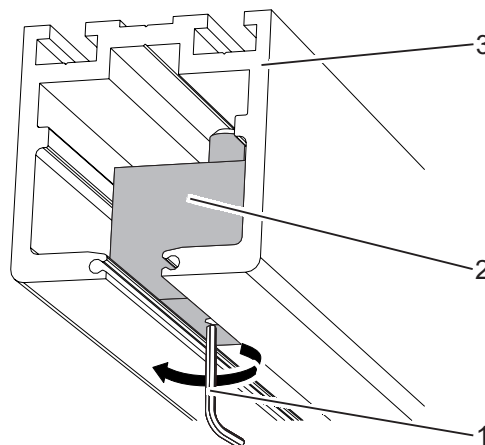

Fig. 5: Fastening the end stop
6. Fasten the end stop (Fig. 5/2) in the track (Fig. 5/3) using a socket head wrench (Fig. 5/1).